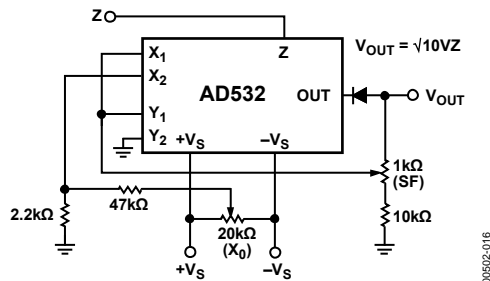

Figure 17. Square Rooter Connection
The connections for square root mode are shown in Figure 17. Similar to the divide mode, the multiplier cell is connected in the feedback of the op amp by connecting the output back to both the X and Y inputs. The diode  $D_1$  is connected as shown to prevent latch-up as  $Z_{IN}$  approaches 0 V. In this case, the  $V_{OS}$  adjustment is made with  $Z_{IN} = +0.1$  V dc, adjusting  $V_{OS}$  to obtain -1.0 V dc in the output,  $V_{OUT} = -\sqrt{10 V Z}$ . For optimum performance, gain (SF) and offset ( $X_0$ ) adjustments are recommended as shown and explained in Table 5.